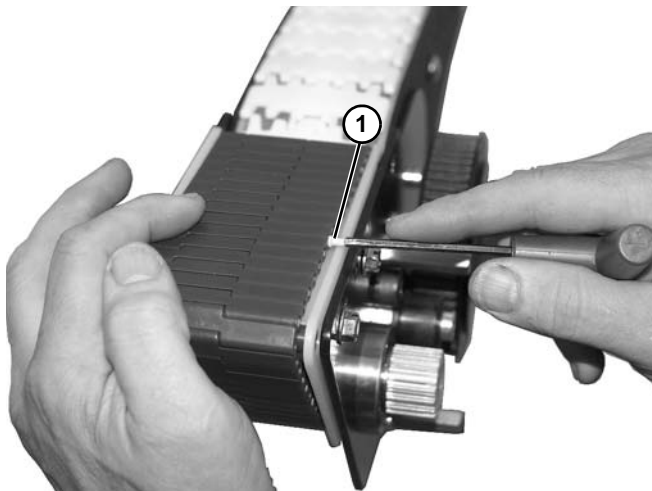

Figure 162
7. Bring ends of belt together and install pin (Figure 162, item 1).